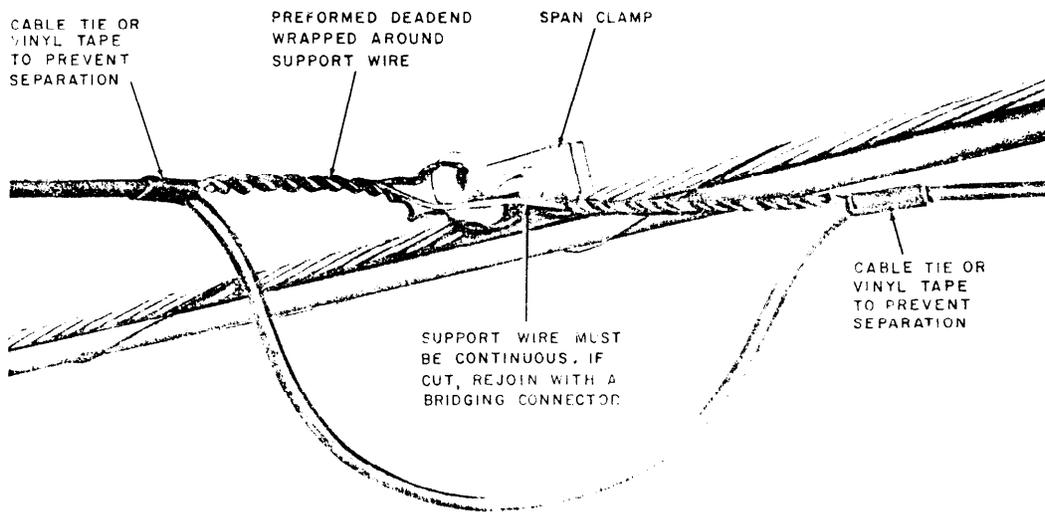

Fig. 15 - Turn In Multiple Pair ASW Run at Midspan
4.06 When it is necessary to make a turn in the multiple pair ASW run at midspan, attach the drop wire as shown in Fig. 15.